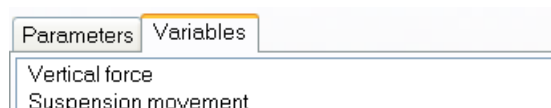

Fig. 52 Test variables
2) Open a graphic window and drag in it the test variables, Fig. 52. Lay off the suspension movement as abscissa.